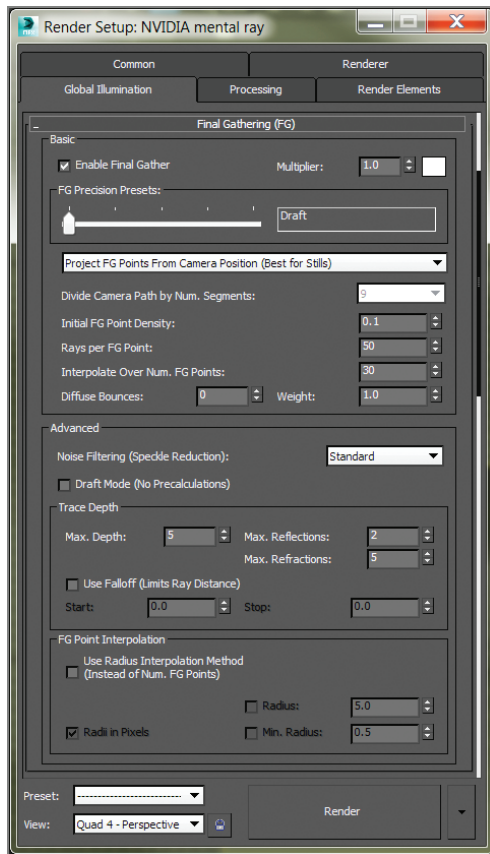

FIGURE 16.6 The Final Gathering (FG) rollout in the Global Illumination tab of the Render Setup dialog box
Figure 16.6 shows the Final Gathering (FG) rollout. Some of the Final Gather options, including how to deal with quality and noise, are explained next.